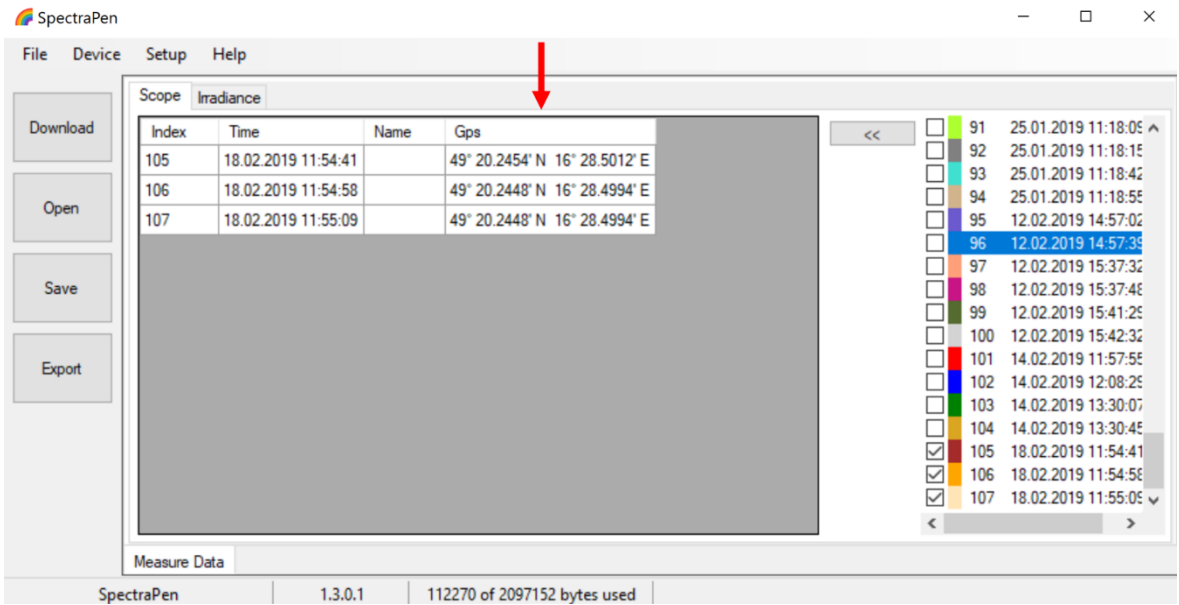

Fig. 36 Data with GPS coordinates.
4. Connect the SpectraPen to the computer and open the SpectraPen software to proceed with download of the measured data. Data measured with activated GPS module are downloaded with GPS coordinates (Fig. 36).